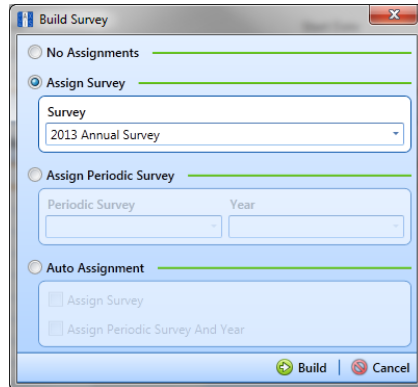

Figure 7-57. Build Survey
- 9 Click  **Build Survey** to open the *Build Survey* dialog box (Figure 7-57).